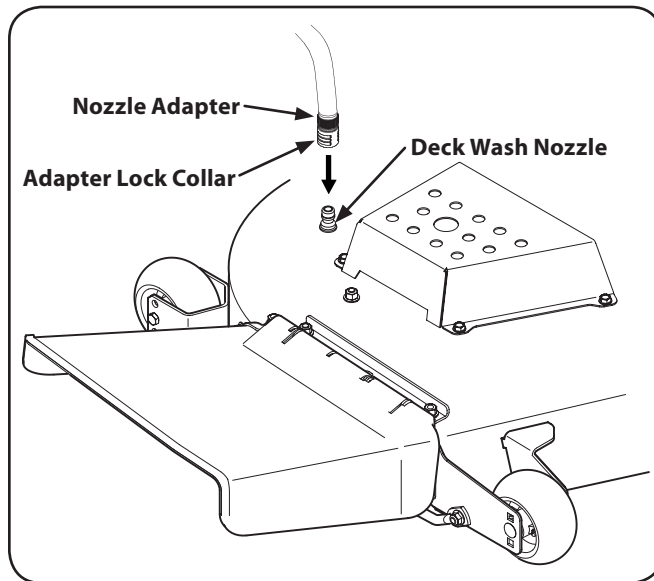

Figure 6-3
3. Attach the hose coupler to the water port on your decks surface. See Fig. 6-3.